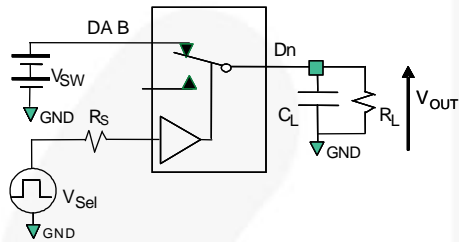

**Figure 4. On Resistance**
| $R_{ON}$        | LS Switch On Resistance (3) | $V_{SW}=1.2$ V, $I_{ON}=-10$ mA, Figure 4    | 2.65         |                                  | 10   | 14   | $\Omega$ |
| $R_{ON}$        | HS Switch On Resistance (5) | $V_{SW}=0.4$ V, $I_{ON}=-10$ mA, Figure 4    | 2.65         |                                  | 7.0  | 9.5  | $\Omega$ |